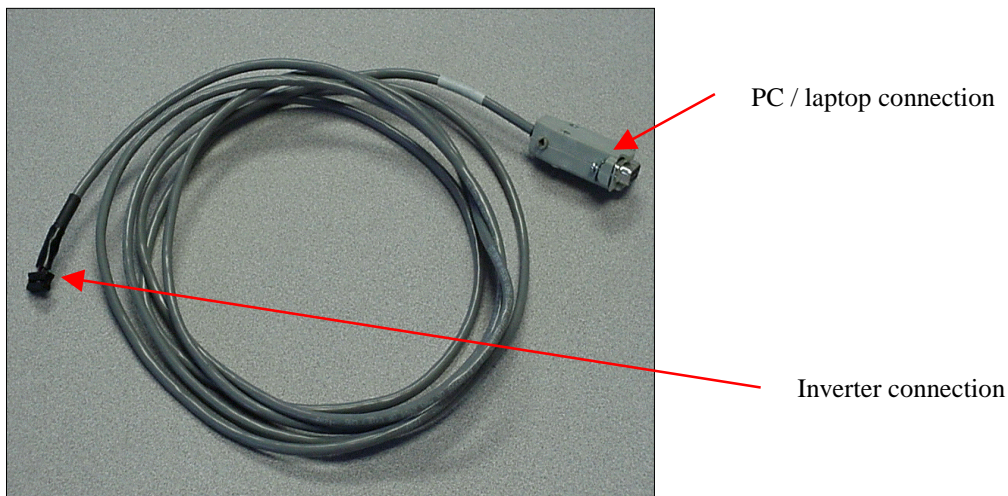

Figure 2.1: Inverter Cable P/N UWR00103-1
2. Connect cable P/N UWR00103-1 (see Fig 2.1) to the connector for the drive keypad (1CN). Be careful of the small 12 pin connect as it is keyed (2 ridges on 1 side match the two slots on the right hand side of the connector).